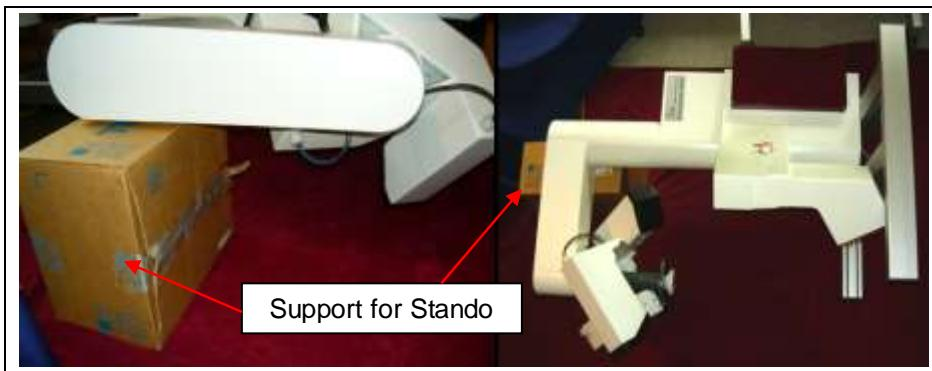

Figure 3: The AG501 lain down on its side with the Stando supported by a cardboard box. The Transmitterholder does not touch the floor.
- **Lay the AG501 on its side with the arm facing upwards. It is important to put some support beneath the Stando (Figure 3; i.e. a robust cardboard box) so that there is no weight or strain on the Transmitterholder of the AG501.**